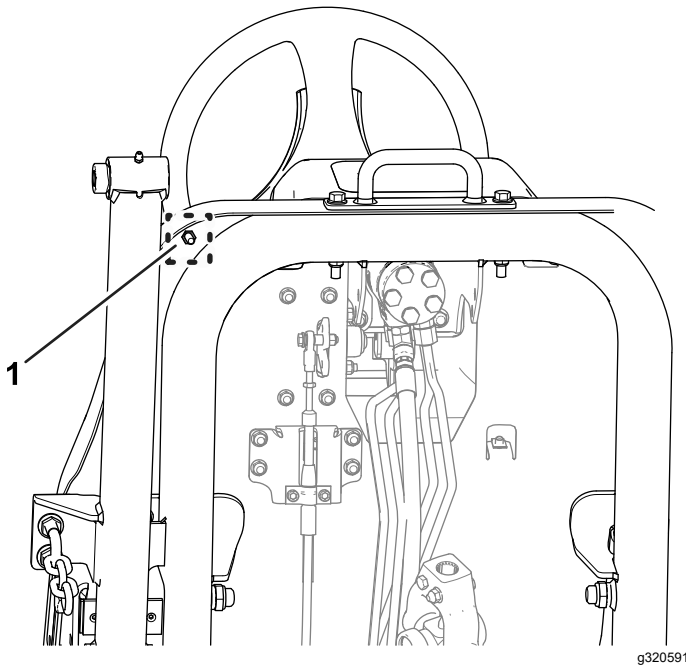

Figure 78
- B. Loosen the jam nut at the bottom of the footrest plate (Figure 78).
- F. While holding the traction-pedal stop, torque the jam nut at the bottom of the footrest plate (Figure 77 and Figure 78) to 37 to 45 N·m (27 to 33 ft-lb).